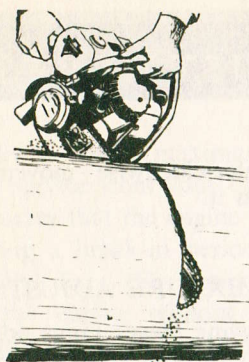

Figure No. 6
2. Notice that sawing action holds the saw against the log. (See Figure No. 6)